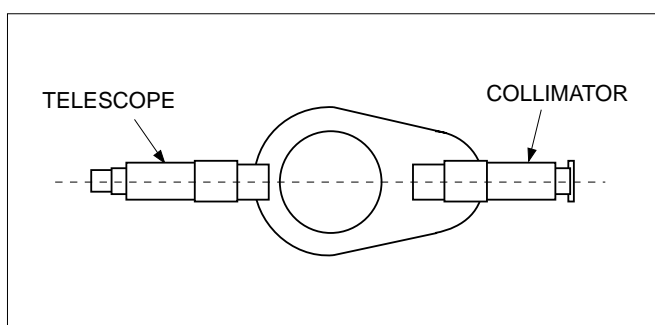

Figure 3 Align the Telescope directly opposite the Collimator
- ① While looking through the telescope, slide the eyepiece in and out until the cross-hairs come into sharp focus. Loosen the graticule lock ring, and rotate the graticule until one of the cross-hairs is vertical. Retighten the lock ring and then refocus if necessary.
- ② Focus the telescope at infinity. This is best accomplished by focusing on a distant object (e.g.: out the window).
- ③ Check that the collimator slit is partially open (use the slit width adjust screw).
- ④ Align the telescope directly opposite the collimator as shown in Figure 3.